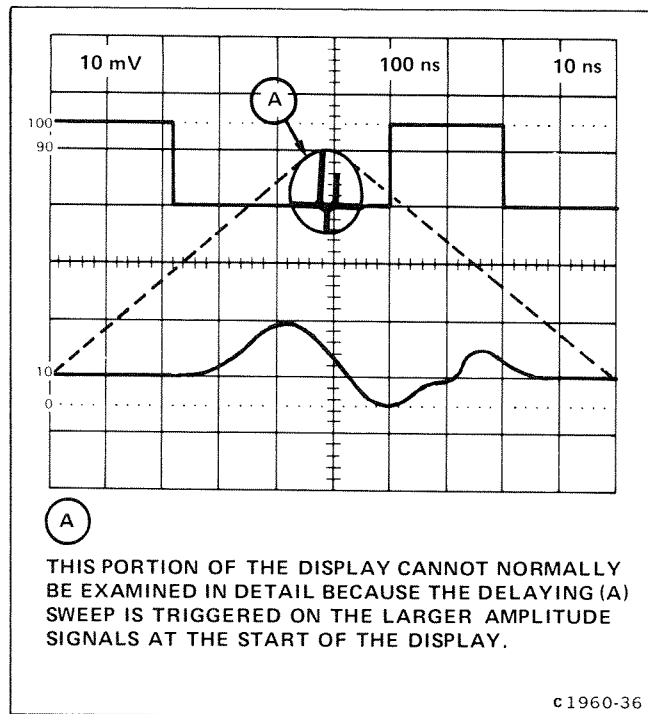

Figure 2-9. Magnifying a selected segment of the delaying (A) sweep in the delay-time mode with mainframe alternate or chopped horizontal operation.
5. To magnify a selected segment of the delaying (A) sweep waveform and determine apparent magnification in the delay-time mode:
- b. Set the appropriate triggering, position, deflection-factor, and sweep-rate controls for the desired dual-trace display. See the example in Figure 2-9.
c. Turn the DELAY TIME control to position the intensified zone to the portion of the delaying (A) sweep waveform to be magnified.
d. Set the delayed (B) sweep unit sweep rate to select the desired duration of the magnified display as indicated by the length of the intensified zone.
e. Observe the magnified display on the delayed (B) sweep. See Figure 2-9.
*For a better look at the delayed (B) sweep waveform, set the mainframe to the B horizontal mode and the amplifier plug-in unit deflection factor to increase the display amplitude. Do not change the 7B15 TIME/DIV setting.*
f. Determine apparent magnification by dividing the 7B15 TIME/DIV setting by the delayed (B) sweep unit sweep-rate setting.
Example: The apparent magnification of the delayed (B) sweep shown in Figure 2-9 with a 7B15 TIME/DIV setting of .1 millisecond and a delayed (B) sweep unit sweep-rate setting of 1 microsecond is: